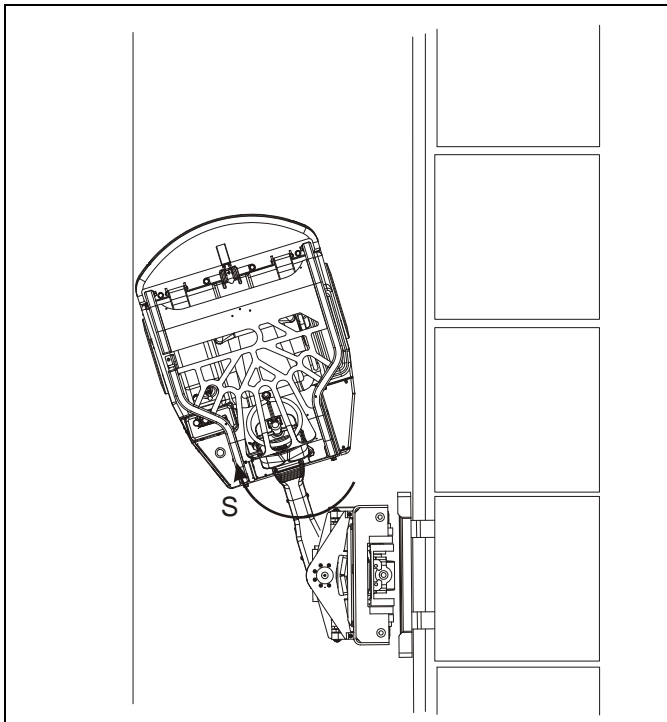

Figure 4-22: Inserting the Load
8. Turn the steering wheel to keep the load straight as you drive it into the opening. See Figure 4-22.